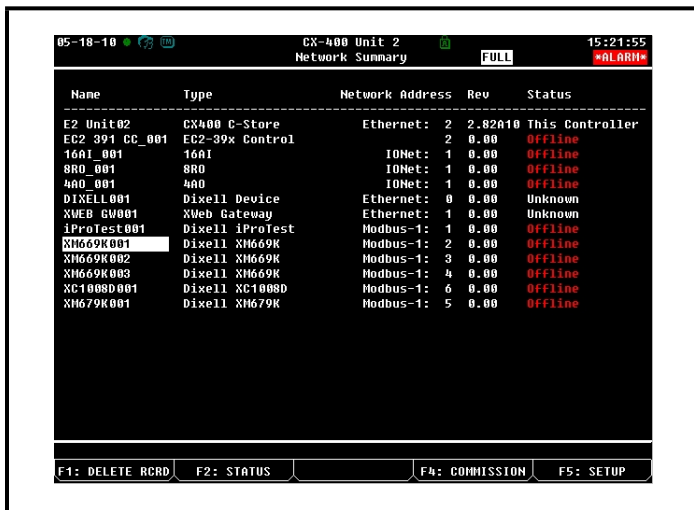

Figure 22-7 - Network Summary Screen
- When finished, press **ESC** to return to the *Network Setup* menu, then press **1** - **Network Summary (Figure 22-7)**. Locate the devices you set up, and look at each device's status in the **Status** field. You will see one of the following messages: